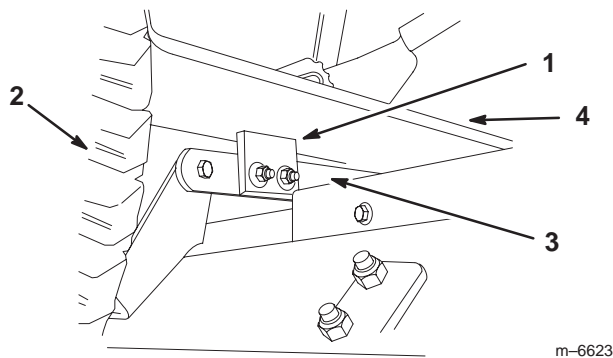

Figure 17
- Raise the attachment lift lever or electric lift all the way up. Check if bumpers, on rear of mower draft bars contact under footrests (Fig. 17).